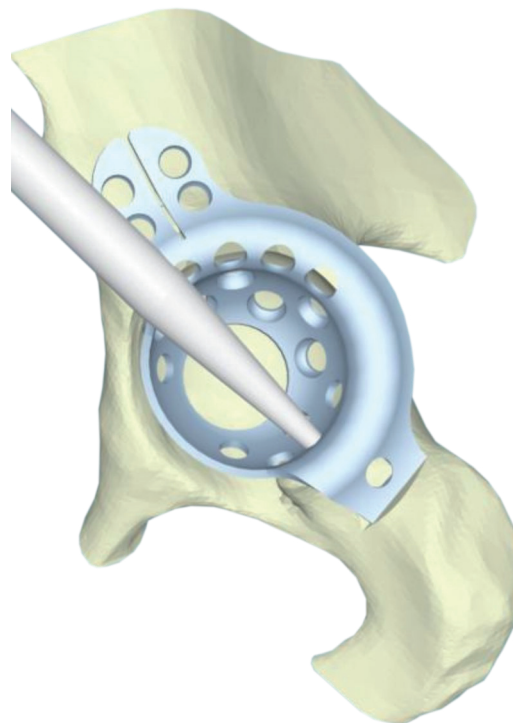
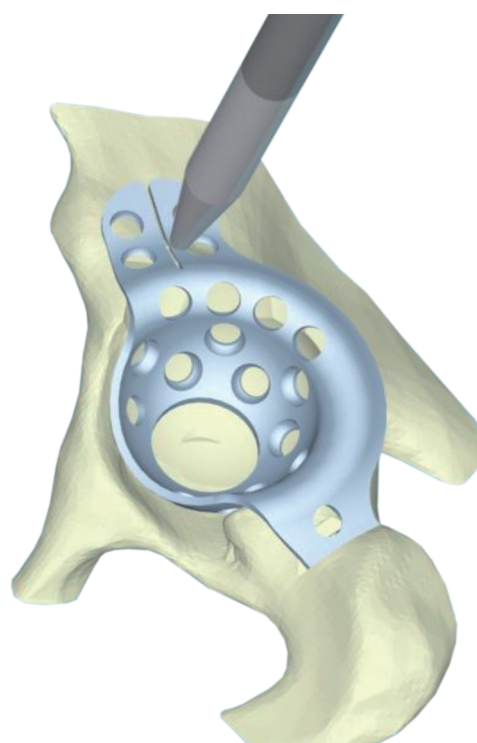

Fig. 2
Fig. 3
7. Insert the BS insert's distal tip into the notch in the ischium bone, then press it as far laterally as possible; even in this position, the proximal wing can still be slightly elevated. Using the positioner (D6), impact the insert through the above-mentioned notch in the ischium bone into the required position (Fig. 2). The same positioner can be used for impacting the proximal wing of the BS insert to the iliac wing (Fig. 3); if necessary, further homografts may be added through the hole in the bottom of the BS insert, so that the insert fits well on the iliac bone, as well as on grafts.